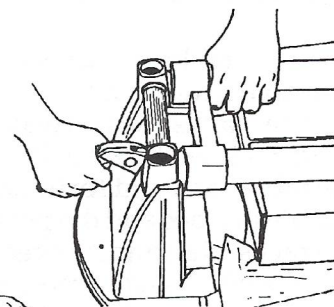
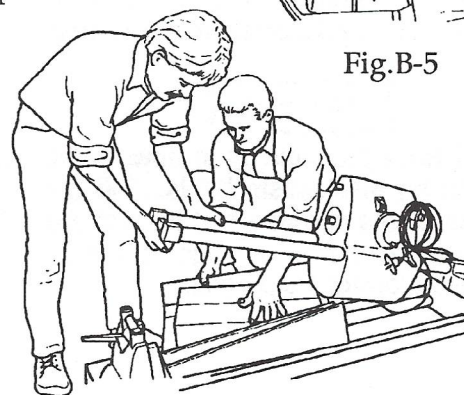

Fig. B-5
Fig. B-6
- ✓ 5. Loosen the headrest lock and lift up the way tubes, as in Fig. B-5. Have a helper remove the legs and the box, as shown in Fig. B-6. Then lower the way tubes and secure the headrest lock.